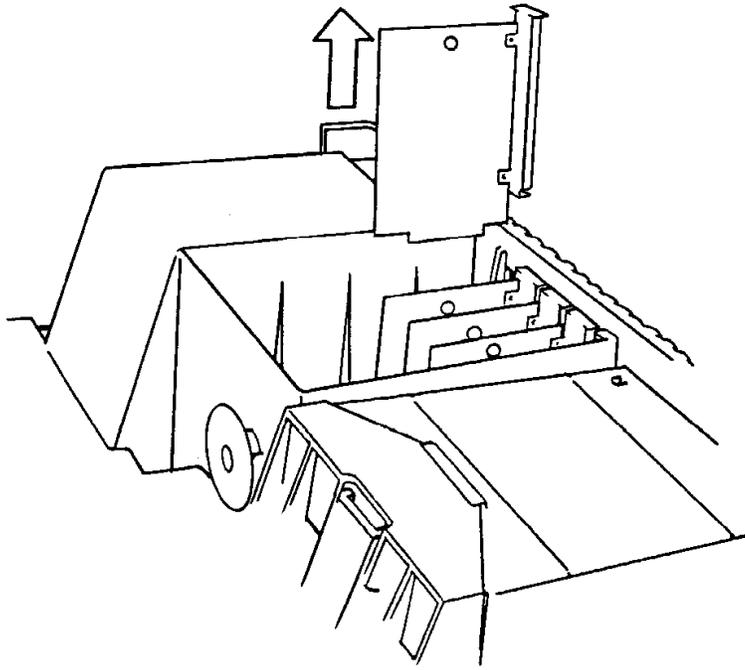

FIGURE 4
7. Gently pull straight up on the card and slide it out of the slot. (See Figure 4).